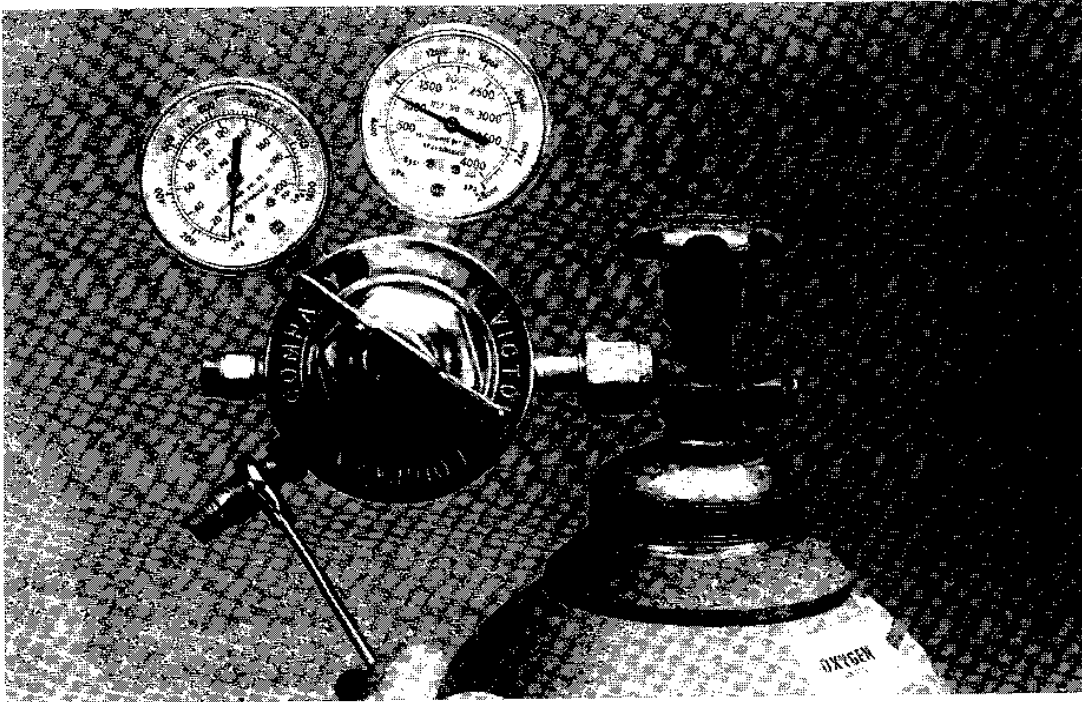

Figure 12, Connecting the Reverse Flow Check Valves
4. Install reverse flow check valves at the regulators by screwing the reverse flow valves onto the regulator outlet connection. Tighten securely with the proper wrench (see Figure 12). Test reverse flow check valves at least every six months. Test more often if the hoses are frequently removed from the torch or regulator.